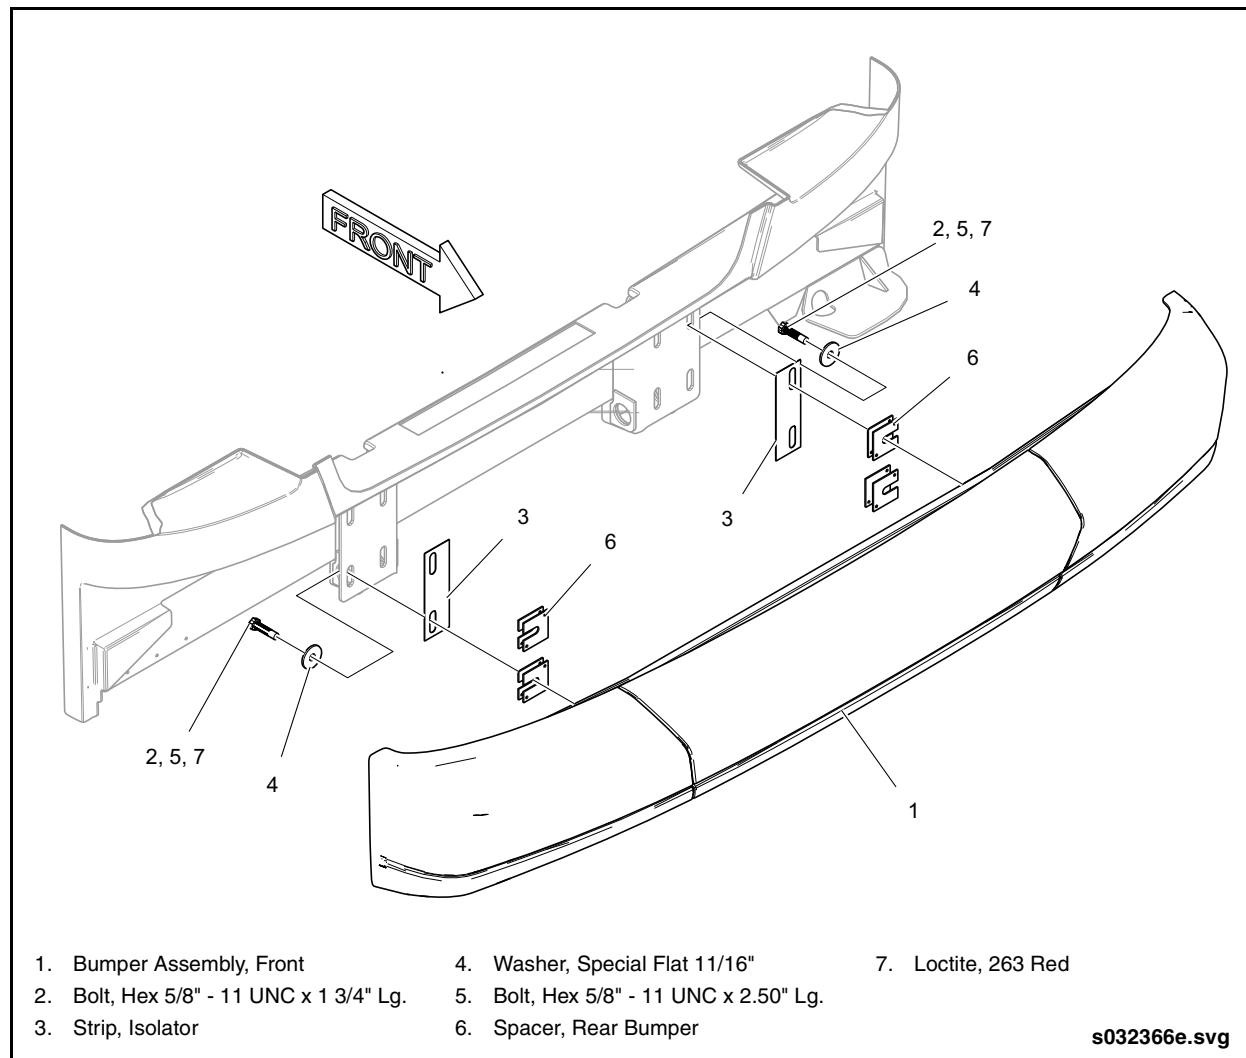
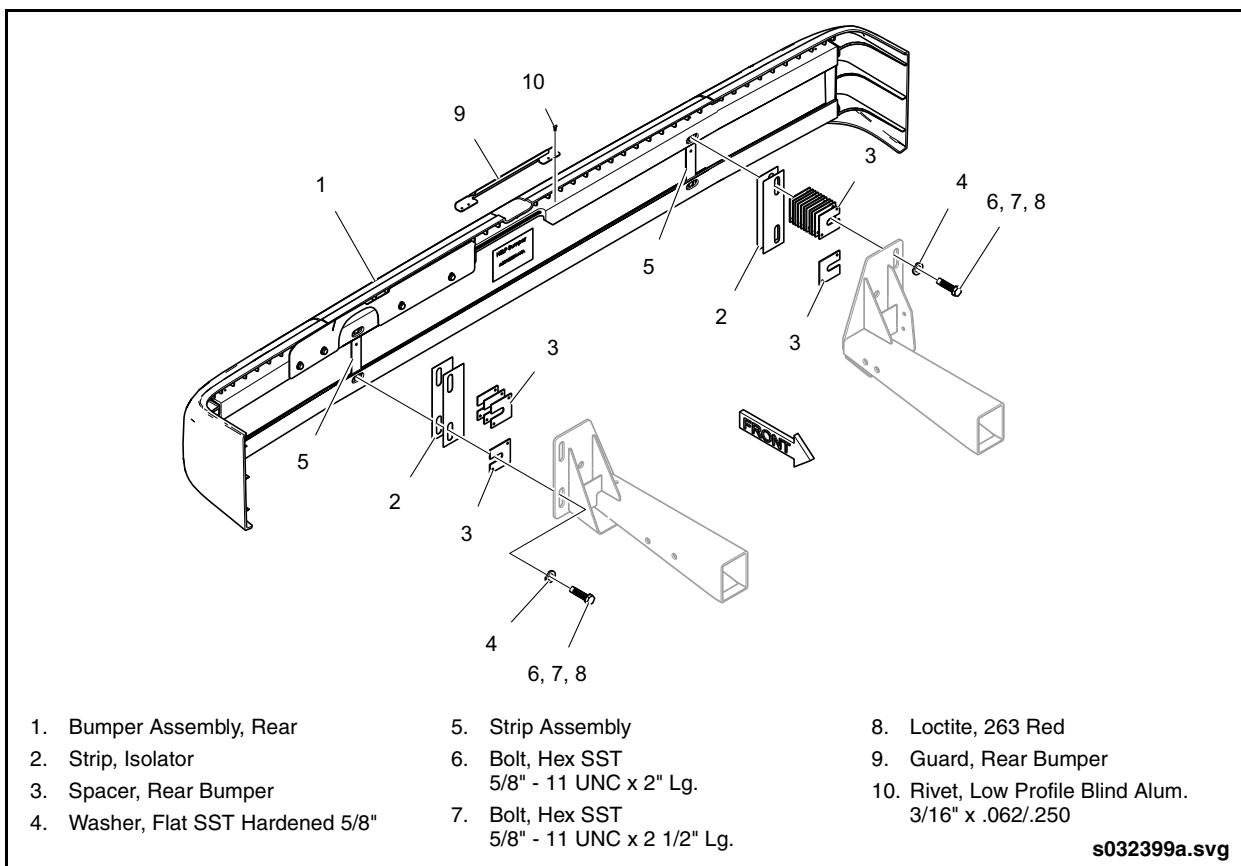

Fig. 13-10: Front Bumpers Installation & Removal
Fig. 13-11: Rear Bumpers Installation &amp; Removal
1. Support the bumper assembly and remove the four bolts, nuts, and washers securing the bumper assembly to the vehicle structure. See "Fig. 13-10: Front Bumpers Installation & Removal" on page 32. See "Fig. 13-11: Rear Bumpers Installation & Removal" on page 33.